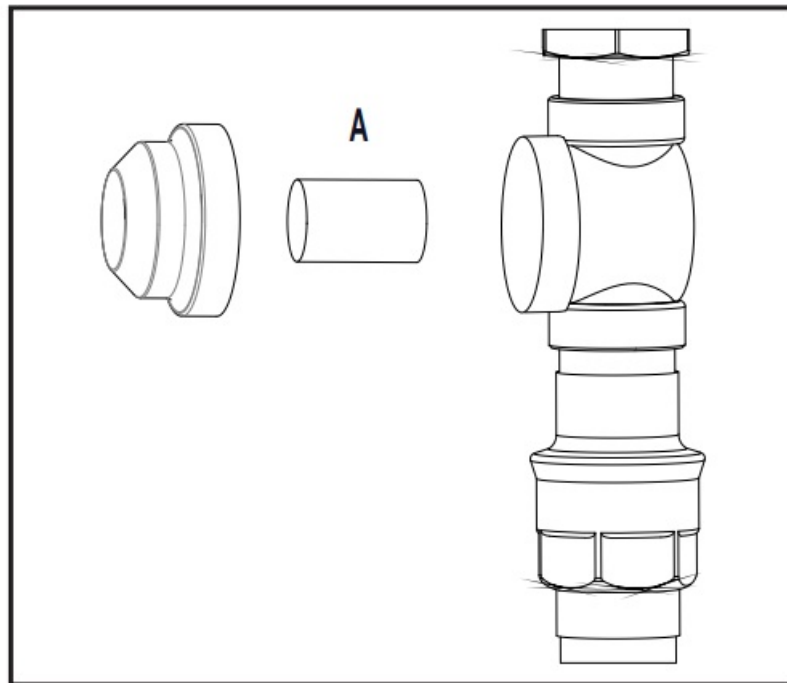

Fig. 2
A typical Floor Booster installation is shown in fig. 2
5. Remove the filter (A, Fig. 2) and place it in a descaling solution.